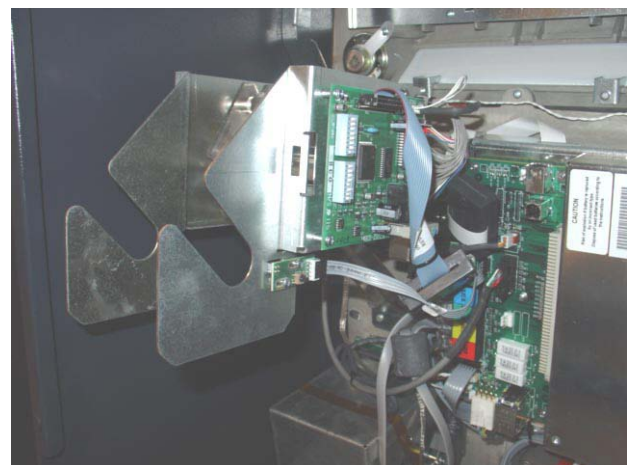

Figure 1. Paper/spool removed.
2. Remove the receipt paper and spool from the printer assembly (Figure 1).